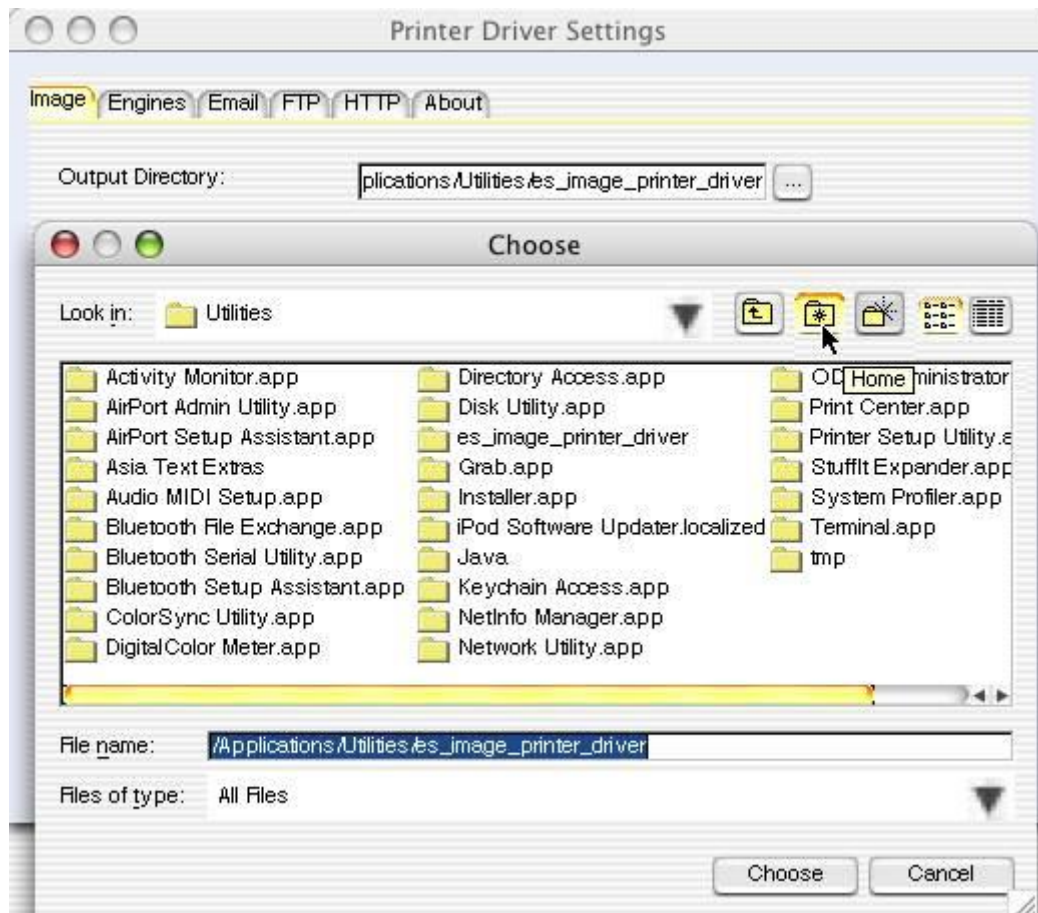

FIGURE 9b
Step 1) Click the '...' button next to the 'Output Directory' text field (Figure 9b). This will cause a directory chooser dialog to popup.
Step 2) Next, click the 'Home' button in the upper right corner of the directory dialog (Figure 9b). It looks like a folder with a star in the middle (where the mouse cursor is in Figure 9b).